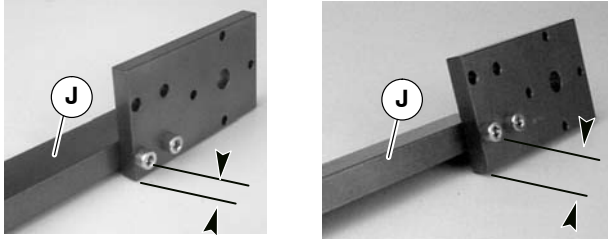

Figure 13
3. Check gearmotor support assembly (J of Figure 13) setup: 2100 (left) and 4100 or 6200 (right).